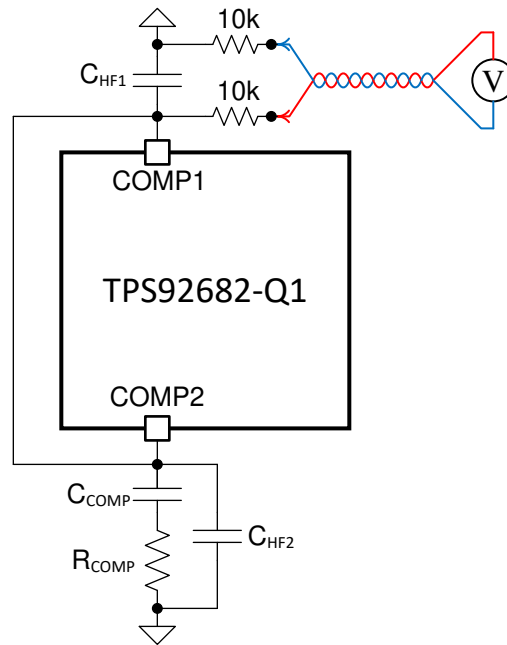

图 7-13. Current Sharing Calibration Setup
- Set CH2GOFF = 1 and CH1GOFF = 0 in 表 7-40. This setting turns off channel-2. Measure the COMP voltage as shown in 图 7-13 and record the measurement as V_{COMP1} .